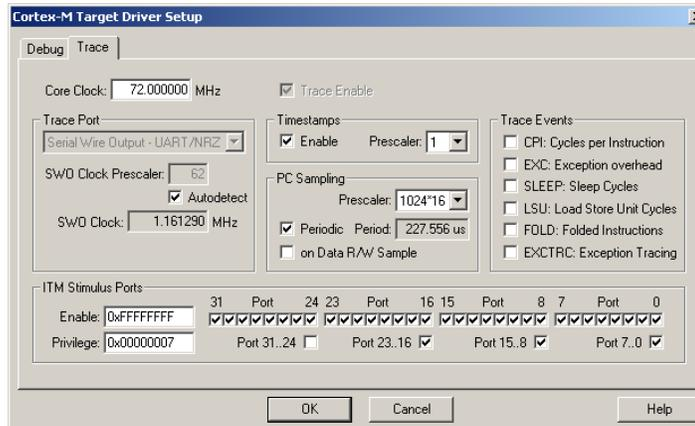

Figure 21 Trace Configuration to Sample the PC
- 3) Configure it as shown below in Figure 21. Make sure the PC Sampling Periodic is checked. This turns on the PC Sampling feature. Ignore the ITM fields.
- 8) Click on RUN. The Trace Records window will immediately fill up with PC values as shown in Figure 21.